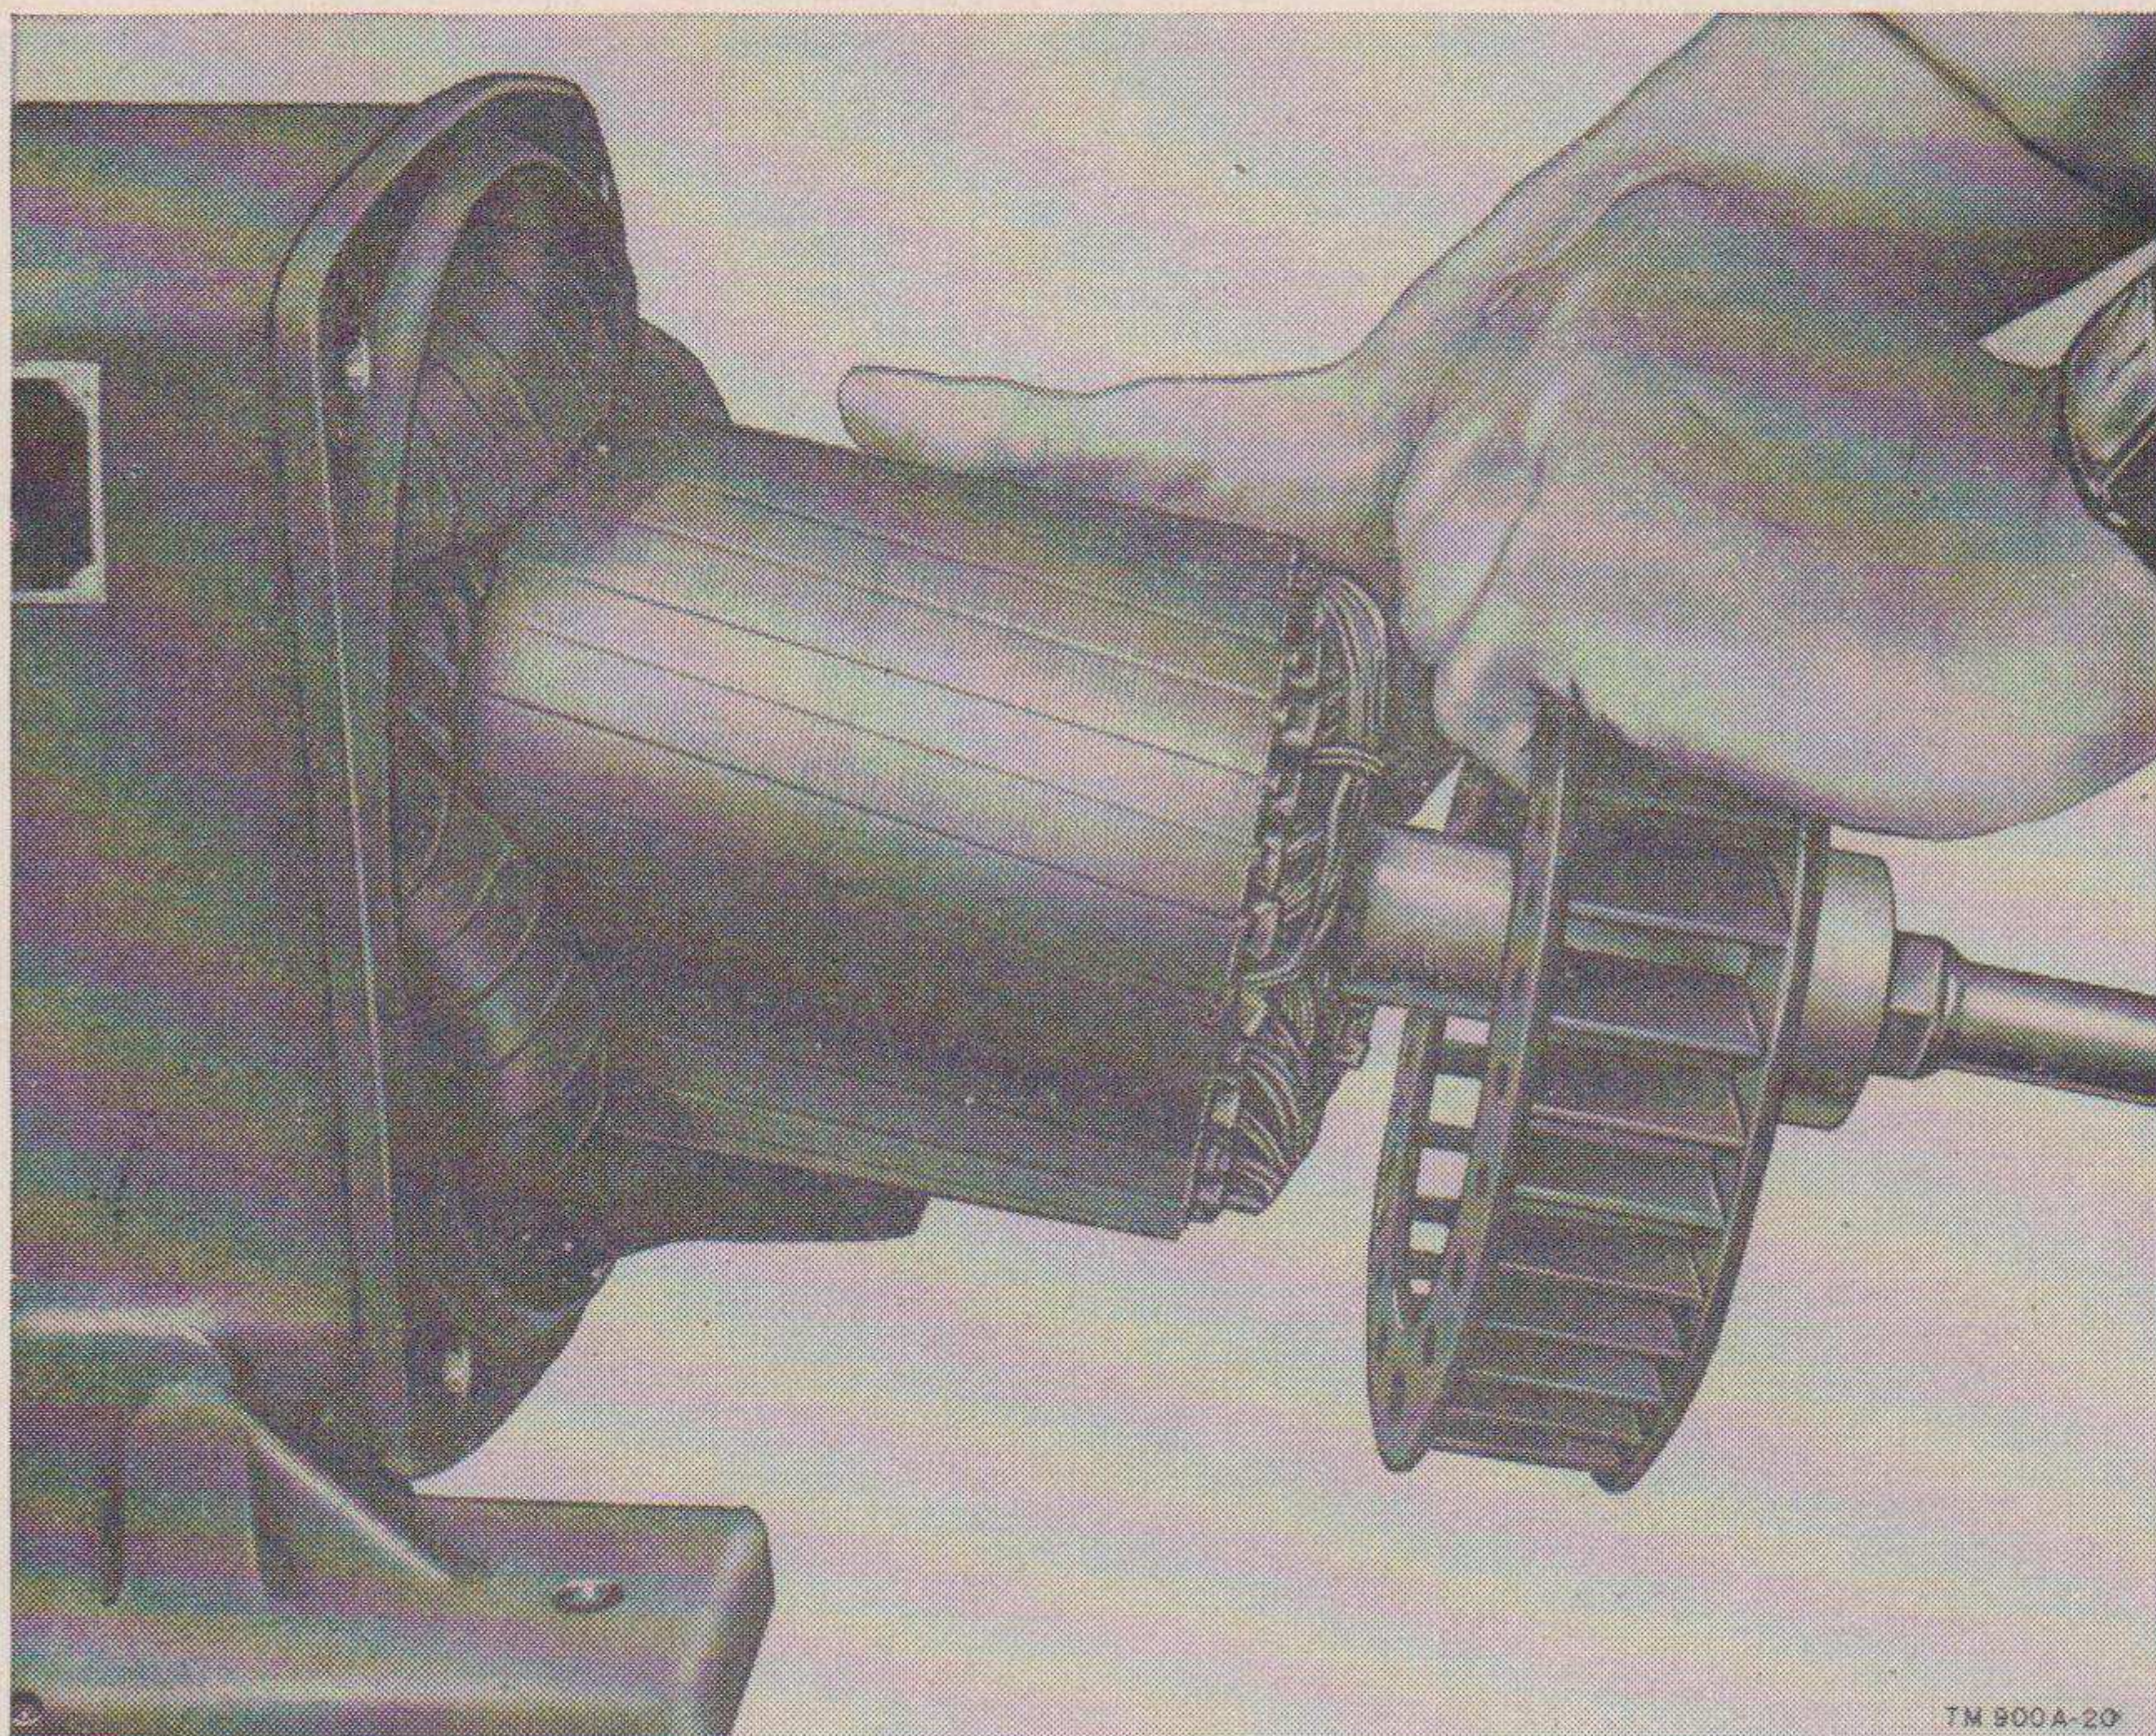

Figure 20. Removing generator armature.
d. Armature Removal (fig. 20). Raise the brush tension arms, remove the screws that secure the brush pigtails, and remove all brushes. Remove the screws that hold the drive-end bell to the stator frame and pull the end bell from the generator assembly. Carefully pull the armature assembly from the generator.